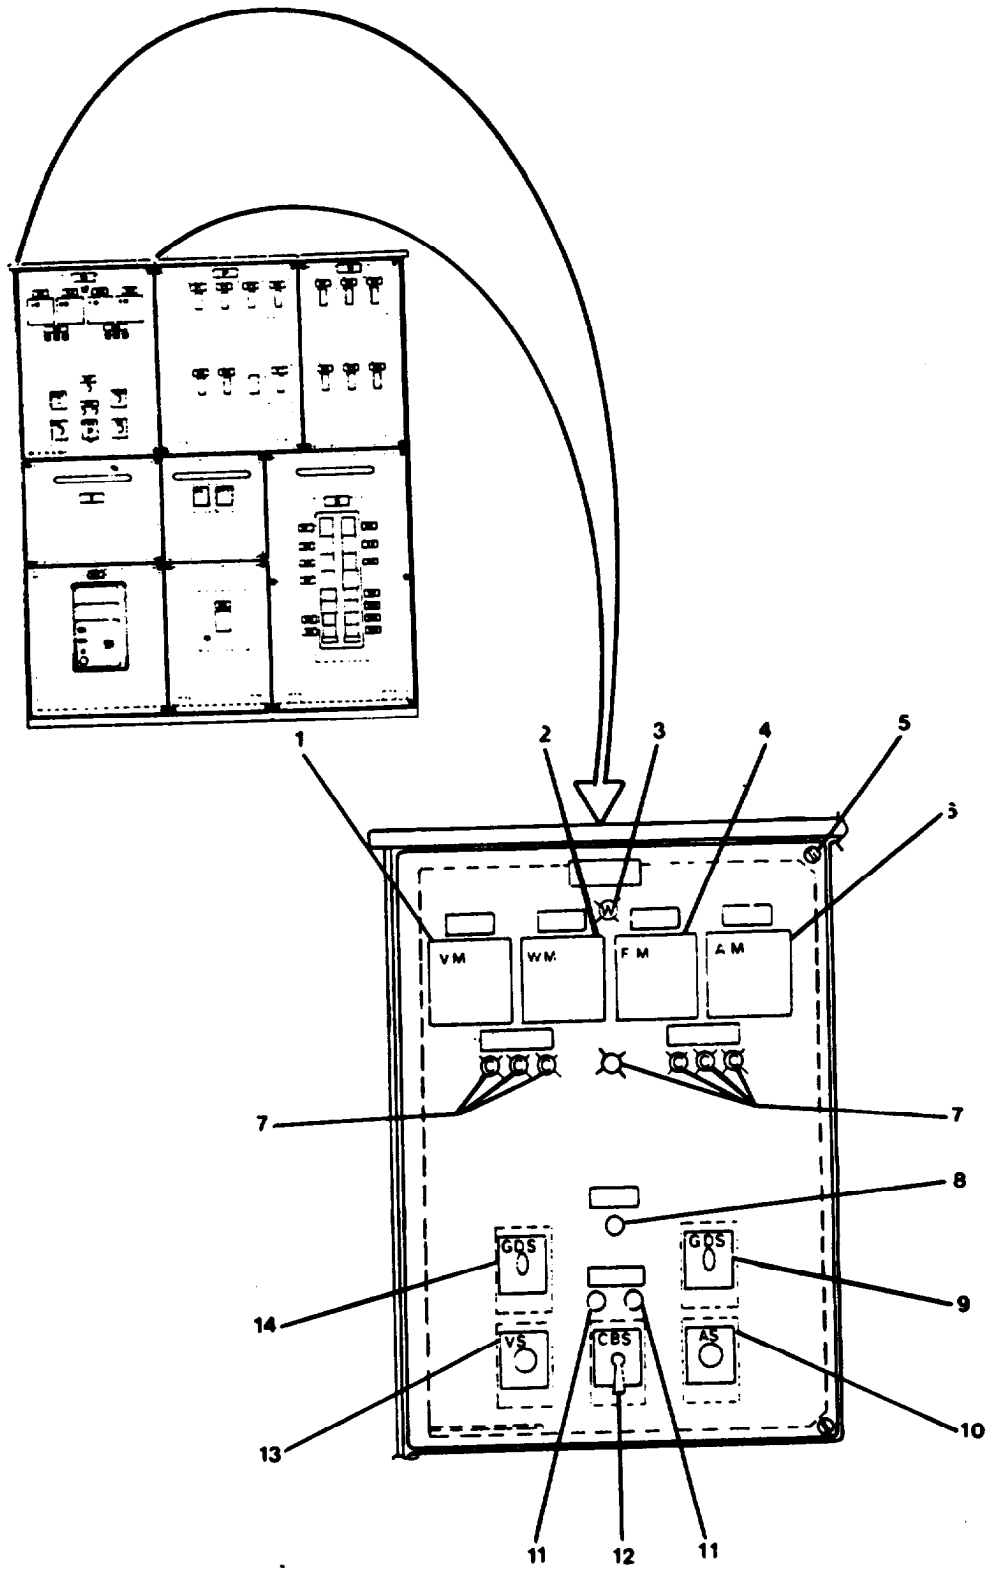

FIGURE 2-219. Emergency Generator Switchboard Top left Panel.
**2-298. Repair Emergency Generator Switchboard. (FIGURE 2-219)**
Repair to emergency generator switchboard is by replacement meters (1, 2, 4, and 6, FIGURE 2-219), light lenses (3, 7, and 11), rheostat (8), rotary switches (9, 10, 12, 13, and 14), and incandescent lamps.
- a. Set 240 VOLT GROUND TEST (14, FIGURE 2-219) to TEST position.
- b. Three 240V GROUND DETECTION LIGHTS (7) remain lit.